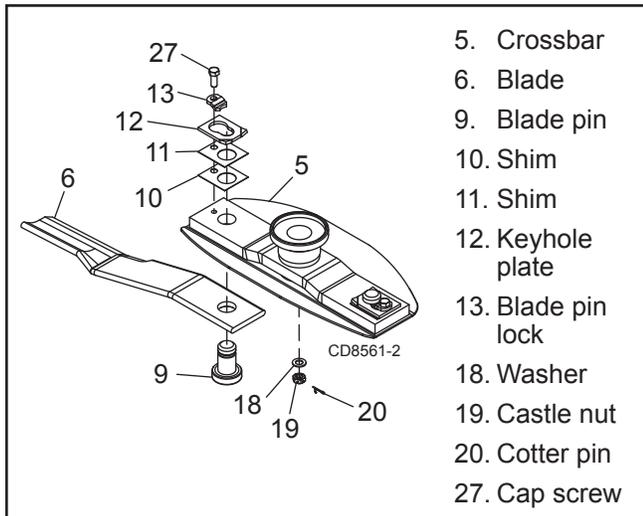

Figure 23. Blade Removal
**NOTE:** You will need to use either the puller screw (Item 6, Figure 23) or a small hydraulic jack to remove the crossbar.
2. To make crossbar removal easier, remove blades as shown in Figure 23.